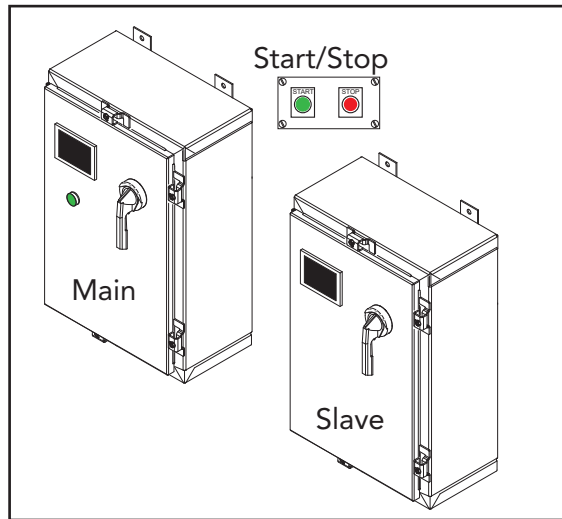

Fig. 5 - Control cabinets and start/stop station.
- The controls are comprised of a Main Control Cabinet, Slave Control Cabinet, and a remote start/stop station (Fig. 5).